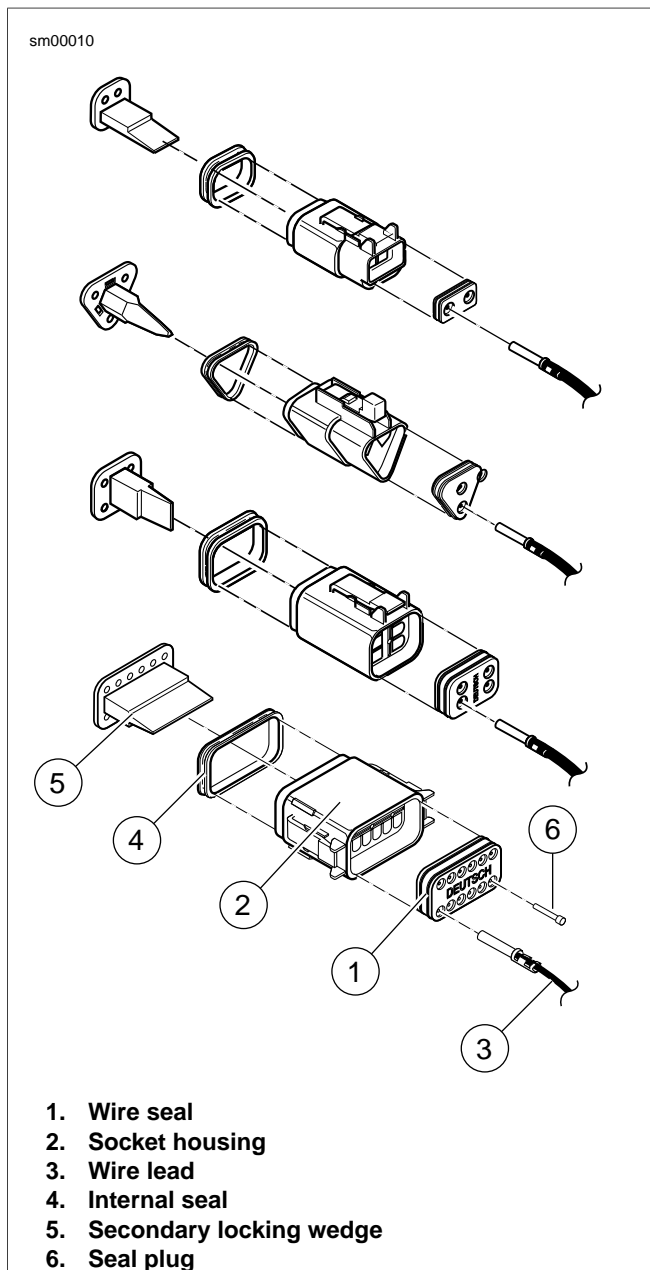

Figure A-32. Deutsch DT Sealed Connector: 2, 3, 4 and 12-Place Socket Housings
2. See Figure A-32. Fit rear wire seal (1) into back of socket housing (2), if removed.
3. Grasp wire lead (3) approximately 1.0 in (25.4 mm) behind the socket terminal. Gently push socket through hole in wire seal into its chambers until it clicks in place.